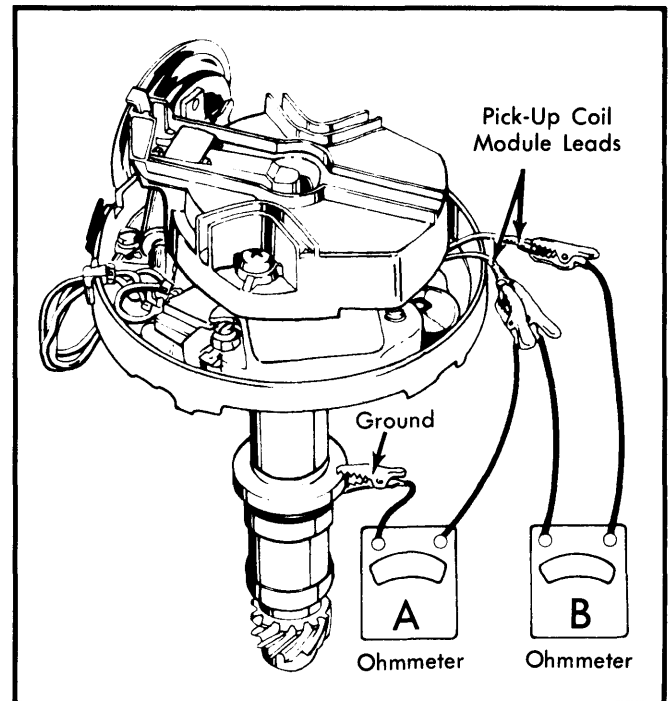

Fig. 7 Distributor Pick-Up Coil Testing Connections
Pick-Up Coil – 1) Connect test stand vacuum source to vacuum advance unit. If vacuum unit is inoperative, replace unit. Remove pick-up coil connector (green and white wires) from module. Connect ohmmeter leads to either pick-up coil lead and to distributor housing. See "A" in Fig. 7. Set ohmmeter on middle scale. Operate vacuum advance through range. Reading should be infinite at all times. If not, replace pick-up coil.
2) Connect ohmmeter leads to pick-up coil leads (green and white wires shown in "B" of Fig. 7). Again use middle scale. Operate vacuum through range. Ohmmeter should read 500-1500 ohms in all advance positions. If readings are not as specified, replace pick-up coil.